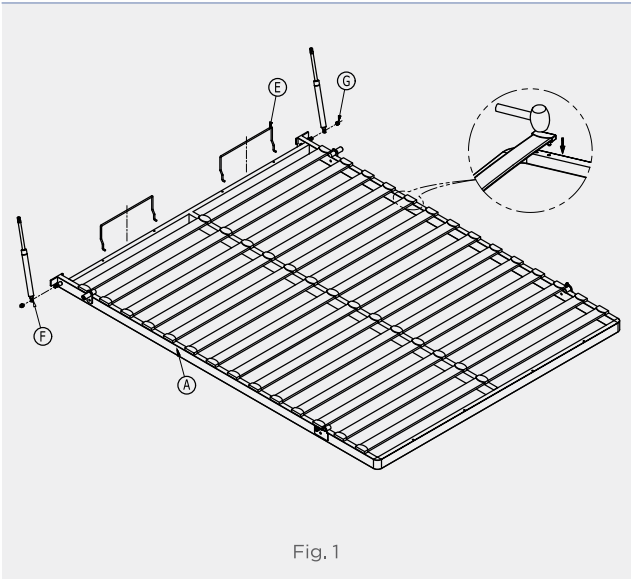

Fig. 1
1. Fit the Fix Bracket on bottom surface of bed as per given dimensions. (Ref. Fig.1)
- Fit Wooden Slats (B) in Single (C) & Double Plastic Cap (D) and fix on the metal frame (A) with the help of Plastic Hammer as shown in Fig. 1. Also assemble Mattress Stopper (E), Gas Pumps (F) & M10 nylock nuts (G) as shown in Fig.1
- Install the Fix Brackets assembly (H) to the right and left side of the cabinet with help of wood screws (I). (Refer Fig.1. For dimensions refer Cabinet Dimensions Sheet.